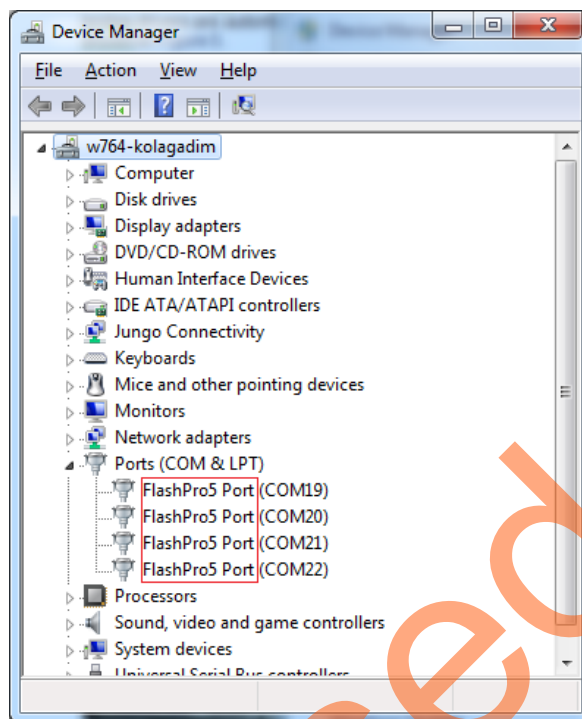

Figure 3 • Device Manager
2. Connect the Host PC to the J33 Connector using the USB A to mini-B cable. The USB to UART bridge drivers are automatically detected. Verify, if the detection is made in the device manager as shown in Figure 3 on page 12.